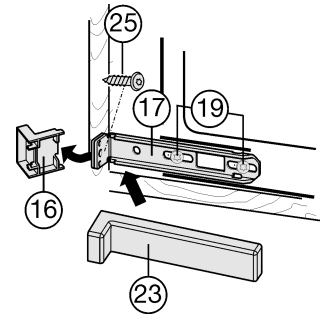

Fig. 29
- Loosen the screws *Fig. 29 (19)* slightly.
- Secure the bottom mounting bracket *Fig. 29 (17)* with a $\varnothing 4 \times 19$ chipboard screw *Fig. 29 (25)* to the unit wall.
- Break off the protruding end of the cover *Fig. 29 (16)*.
- Tighten the screws *Fig. 29 (19)*.
- Place the cover *Fig. 29 (23)* onto the bottom mounting bracket *Fig. 29 (17)*.